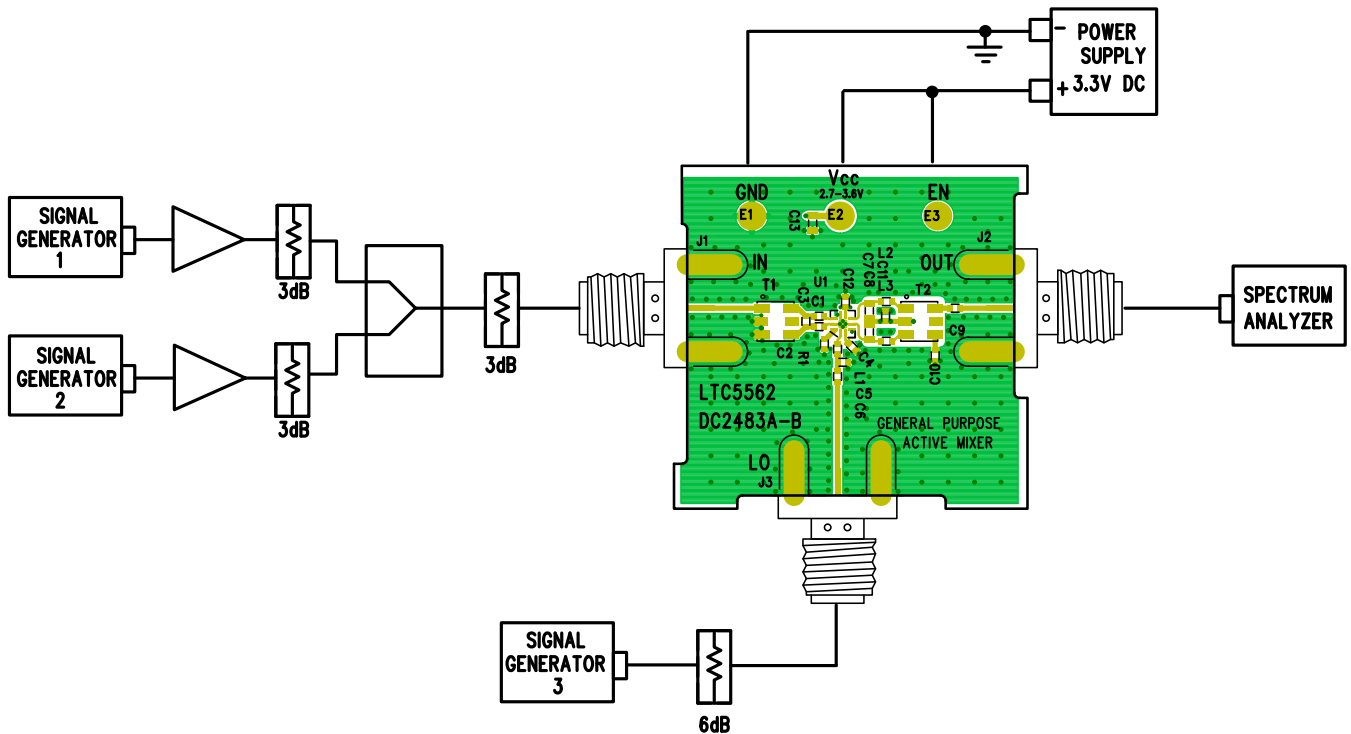

Figure 4. DC2483A-B Downconverter Two-Tone Test Setup
1. Connect all test equipment as shown in Figure 4.